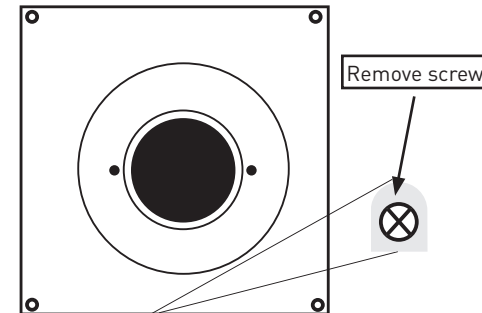

Fig3
- Remove the cover by removing the screw at the bottom of the product (see Fig 3)